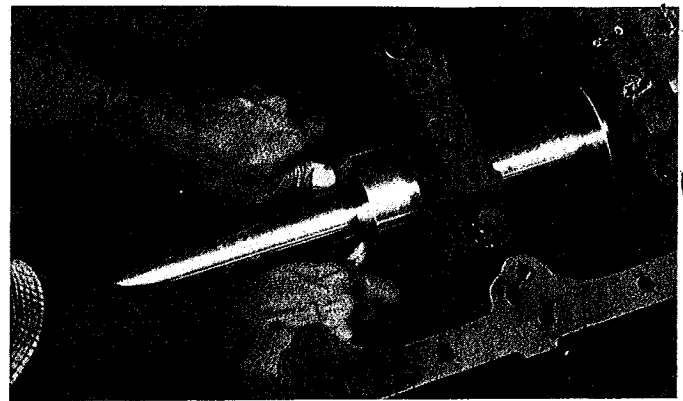

Fig 3 Checking the Alignment of the Main Bearing Journals
4. Now rotating the test ring back and forth, use light finger pressure against the test ring on both sides of the bar and push the test ring through each bore. (See Fig 3)